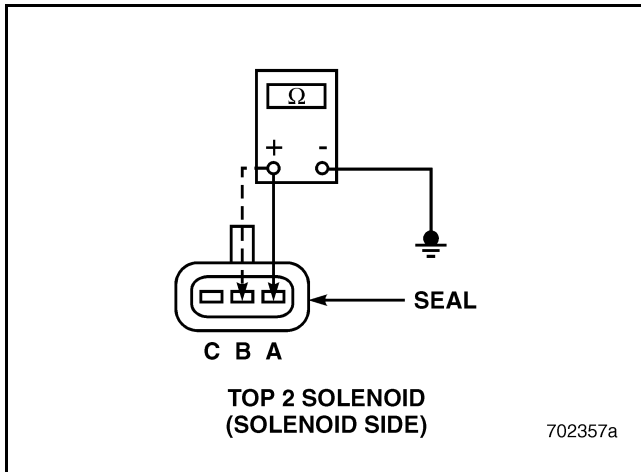

Figure 476
2. Check for continuity between either pin A or B on the solenoid side of the Top 2 solenoid valve connector and a good ground (see Figure 476).